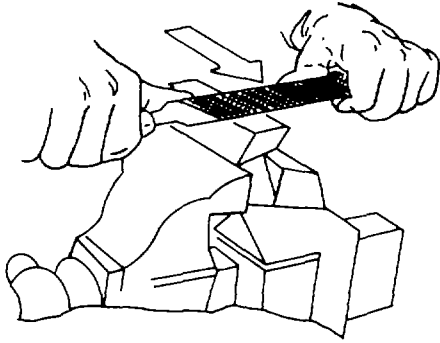

Figure 4-78. Drawfiling
(3) *Drawfiling.* Drawfiling produces a finer surface finish and usually a flatter surface than crossfiling. See figure 4-78 and proceed as follows:
(b) Hold the file as shown in figure 4-78. The cutting stroke is away from the body when the file handle is held in the right hand. If the handle is held in the left hand, the cutting stroke will be toward the body.